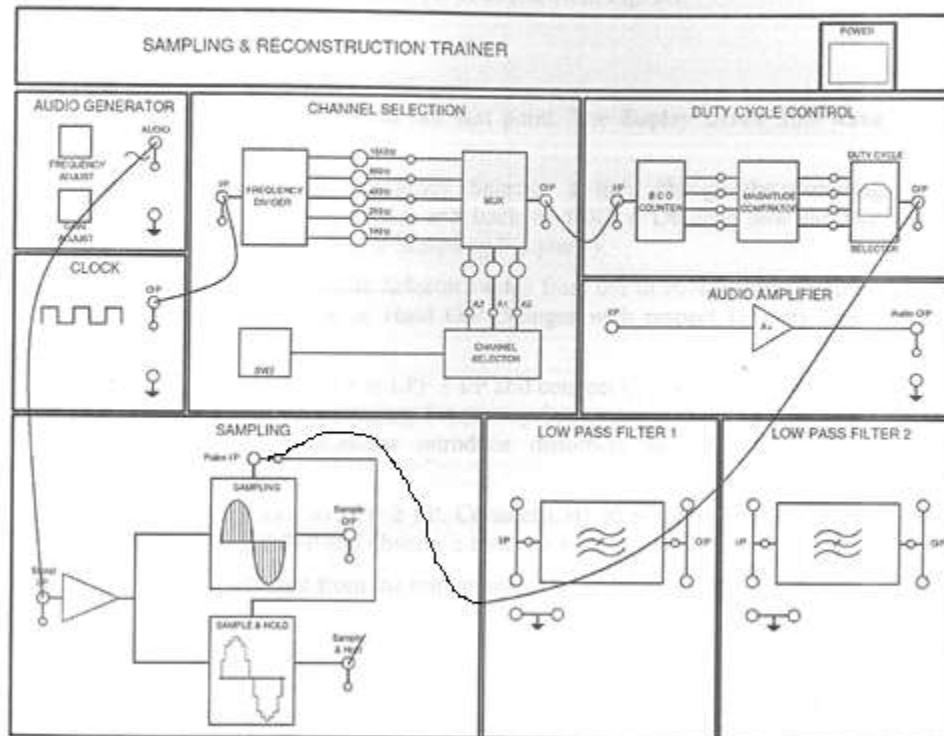

Fig. 3.1
3. Make connections using 2mm patch cords as shown in Fig. 3.1